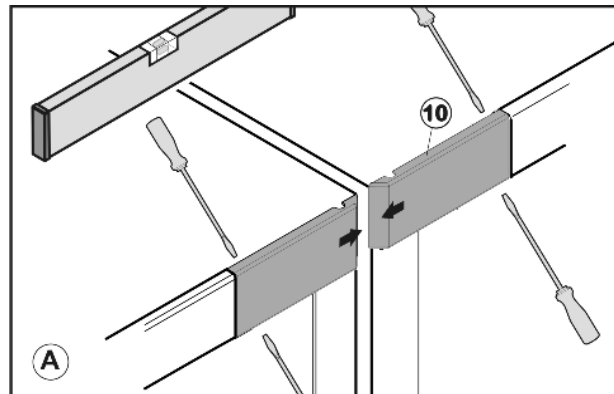

Fig. 62
- ▶ Loosen covers Fig. 62 (10) using a screwdriver and pull inwards to remove.